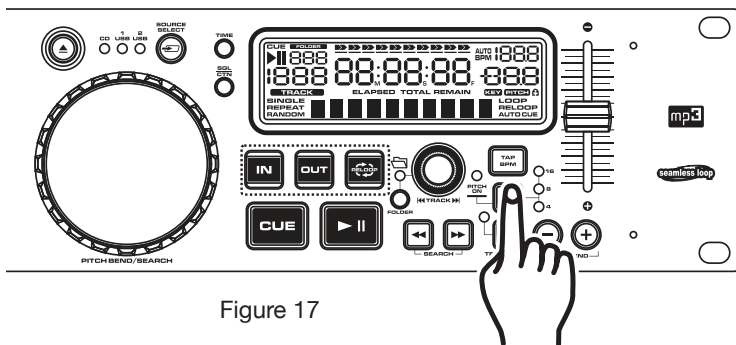

Figure 17
You may choose a pitch operating range at any time. To change the operating range be sure the pitch function is turned on, see figure 17. The pitch percentage can be changed between +/-4%, +/-8%, +/-16%, and 100%. 4% will allow the least amount of pitch manipulation and 100% will allow the most amount of pitch manipulation. To adjust the different values, press the *PITCH ON/OFF BUTTON* (10) and Tap on the *% BUTTON* (10) until your desired value is reached. The L.E.D. of the *% BUTTON* (10); glowing yellow for 4%, glowing green for 8%, or glowing red for 16%, and all LEDs glowing for 100%.